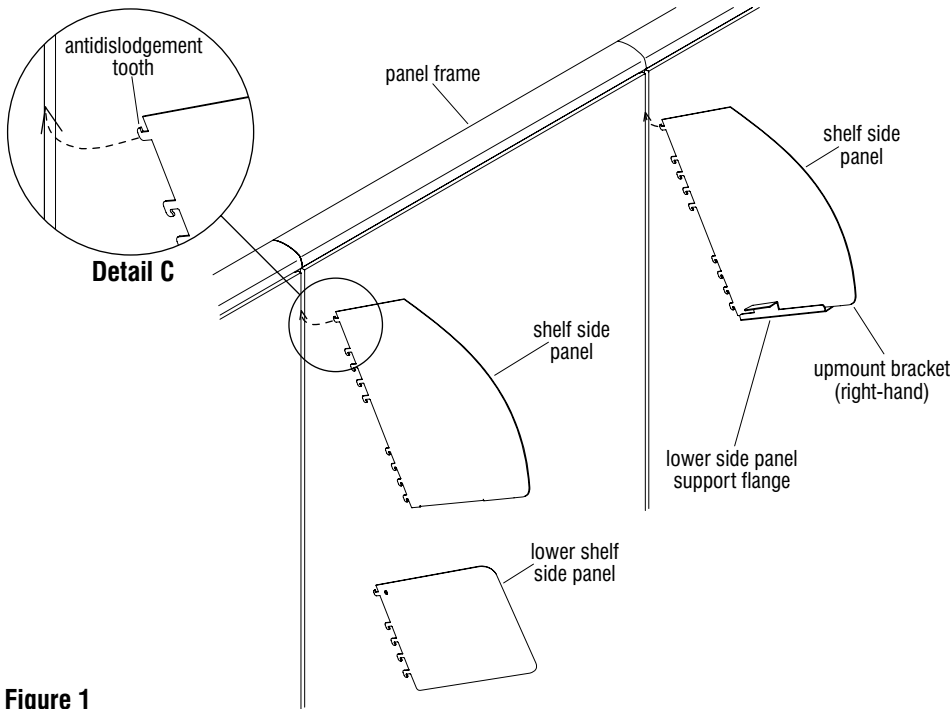

Figure 1
1. Position the two shelf side panels with the support flanges facing inward. Locate the side panels at the height that is desired on the panel. The side panels have integral teeth that engage in the furniture hanging slots in the panel frame (Figure 1).